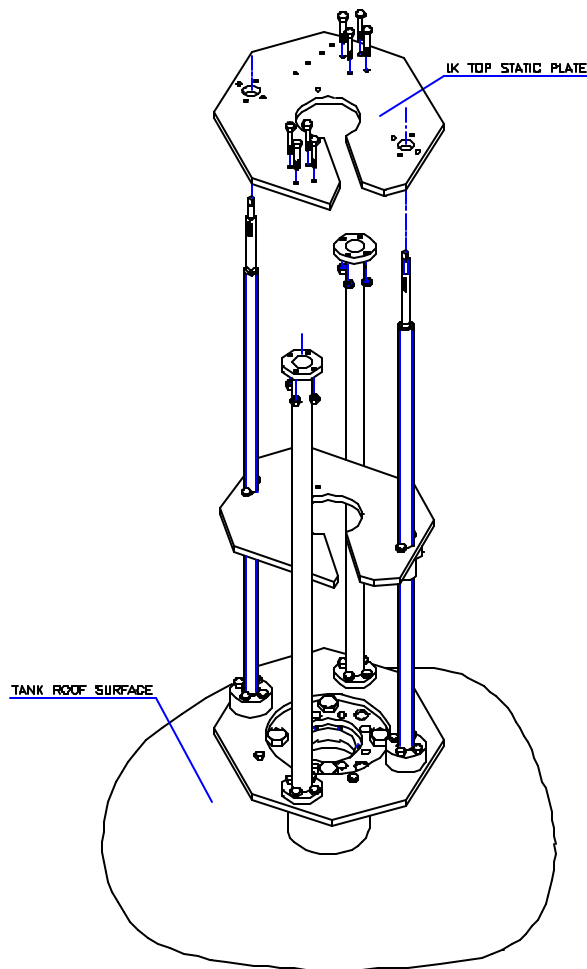

Figure 7
1. Align the **IK Top Static Plate** over the **Pipe Stands** and **Screw Assemblies** and lower it so that the tops of the **Screw Assemblies** protrude through the plate (*see Figure 7*).